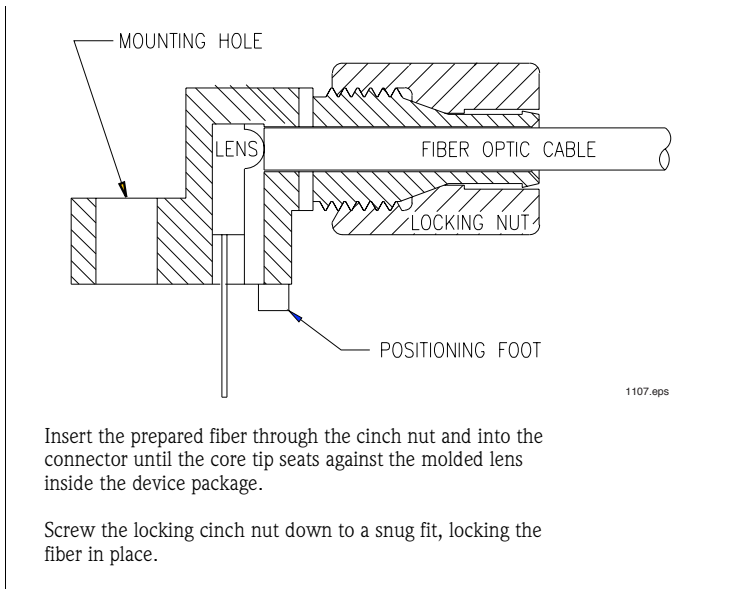

Figure 3. Cross-section of fiber optic LED and cable.
- A13.** Locate the individual fiber on the duplex fiber pair that has small blue dots on its jacket. Insert one end of this fiber into **D2** on the transmitter portion of one printed wiring board and the other end into **Q1** of the other printed wiring board, following the steps in **Figure 3**.
- A14.** Identify the optic fiber at the unconnected end of the duplex optical fiber with the red light coming out of it. Insert this fiber into the Phototransistor at the other receiver using the instructions in **Figure 3**. Insert the remaining unconnected fiber into the other fiber optic LED.